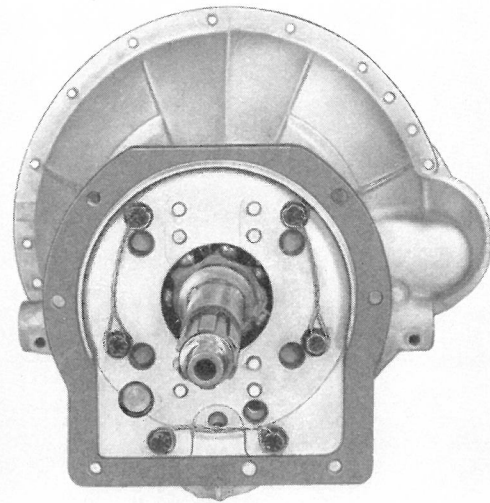

Fig. 3. Showing the wire locking of adaptor plate bolts
1. Dismantle the gearbox as described on page 2-206 and replace the existing mainshaft with a shorter overdrive mainshaft. Re-assemble the gearbox and in place of the normal gearbox rear extension fit the overdrive adaptor and gasket as shown on Fig. 3. Coat a paper gasket on both sides with jointing compound and fit it over the studs on the overdrive mounting flange.